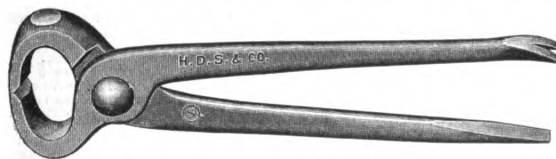

Fig. 8.—Combination Carpenters' Pincer.
H. D. Smith & Co., Plantsville, Conn., and 253 Broadway, New York, have just placed on the market the combined carpenters' pincer, tack hammer, tack puller and screw driver shown in Fig. 8 of the cuts. It is finely forged from steel. On either side of the jaws is a polished hammer surface. The goods are stamped S in a circle, which is used only on the company's best quality goods. The tool is made in 6, 8 and 10 inch sizes, each put up in a manila envelope